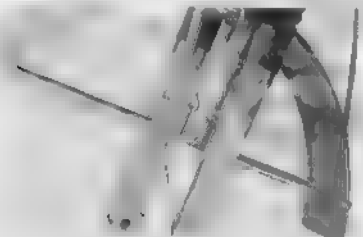

Fig. 4.28 Removing front fender ① 6 mm setting bolt
5. Remove the front fender by removing 2 hex bolts ① from each side. (Fig. 4.28)